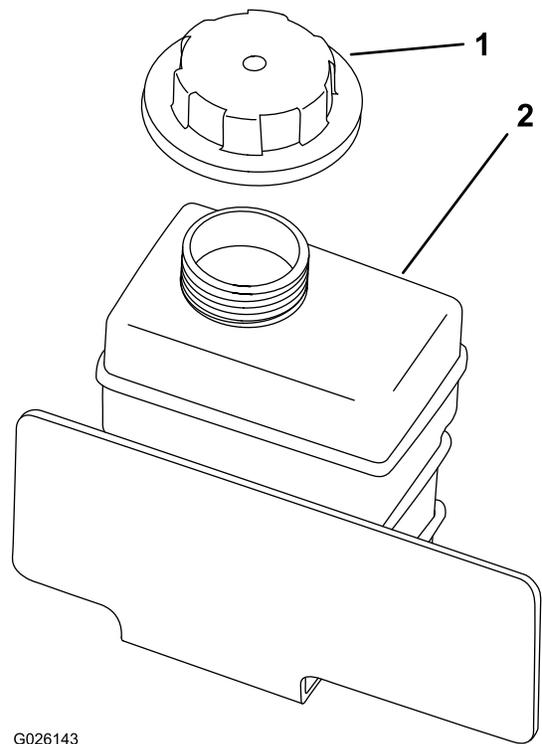

Figure 63
4. Remove the reserve-tank cap (Figure 63).